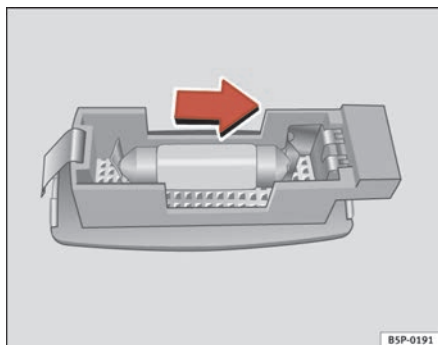

Fig. 179 Removing sunroof light
- Carefully remove the lamp, using the flat side of the screwdriver, as shown in the figure ⇒ fig. 179.
- Remove the lamp, moving it in the direction of the arrow and outwards ⇒ fig. 179.